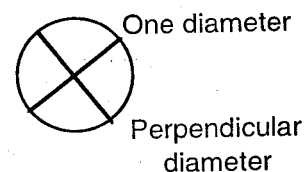

Figure 2
7. Take 4 pairs of readings for the diameter of the cylinder. To obtain a pair of readings for diameter, measure one diameter, rotate the cylinder through 90° and then measure the perpendicular diameter (Fig. 2).
6. Take 4 pairs of readings for the diameter of the wire. In each case, take the reading for one diameter, rotate the wire through 90° and then measure the perpendicular diameter (Fig. 2).